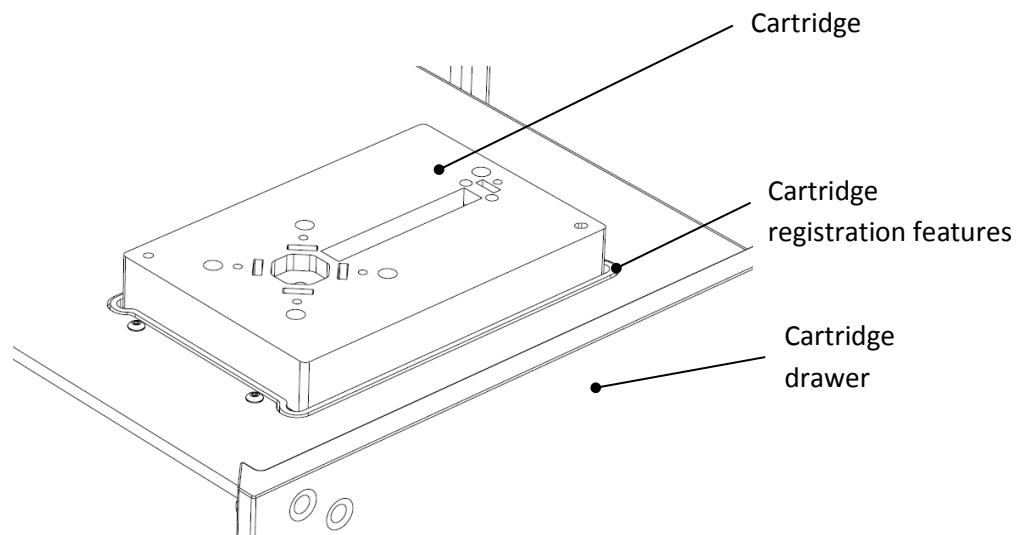

Figure 5: Cartridge oriented correctly on the cold plate
- Pipette 1 ml of water onto the center of the cold plate and place the cartridge onto the cold plate oriented so the concentration gel is on the left hand side, as pictured in Figure 5.